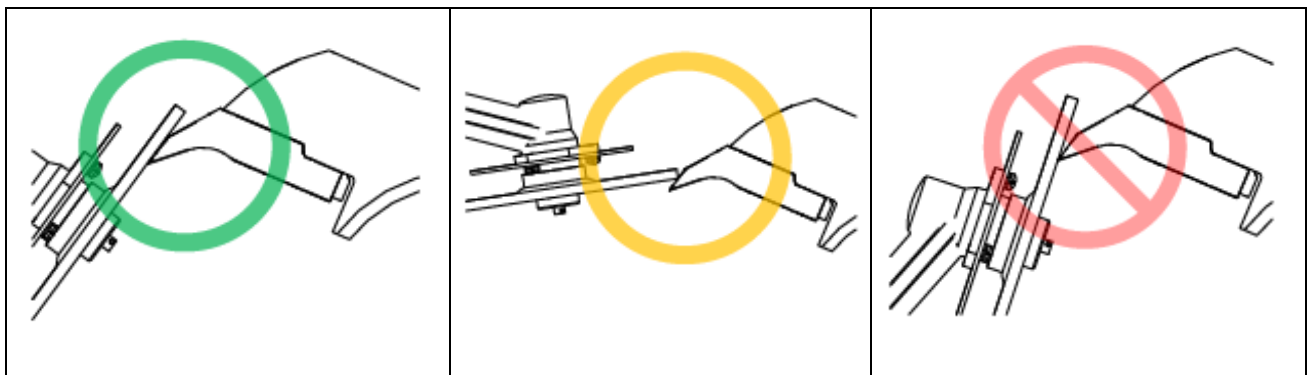

Figure 8
4. Never sharpen just the tip of the tooth. This could lead to the tooth heeling during mulching operations. See Figure 8.
5. Deburr the top of the tooth with the grinding wheel (as necessary). Beware not to remove too much material. Deburring the underside of the tooth is not recommended. See Figure 8.